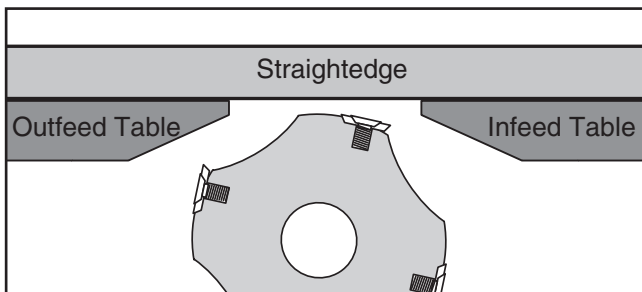

Figure 59. Infeed and outfeed tables set evenly.
- Place straightedge halfway across infeed and outfeed table, and adjust infeed table even with outfeed table, as shown in **Figure 59**.